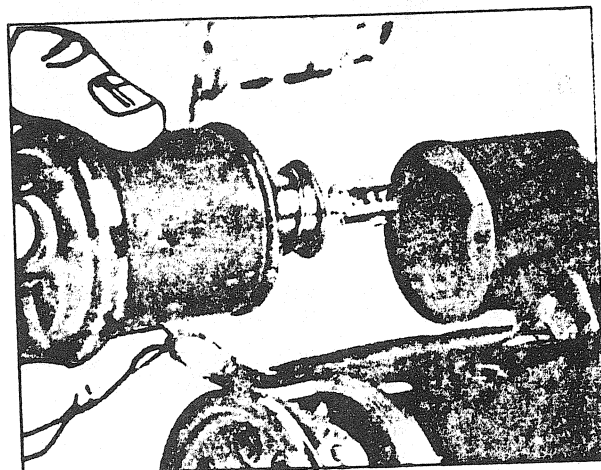

FIGURE 17
- Rotate armature by hand. It must turn easily without the carbon brushes. Hook in the starter solenoid switch and screw securely to the drive housing. (Fig. 17).